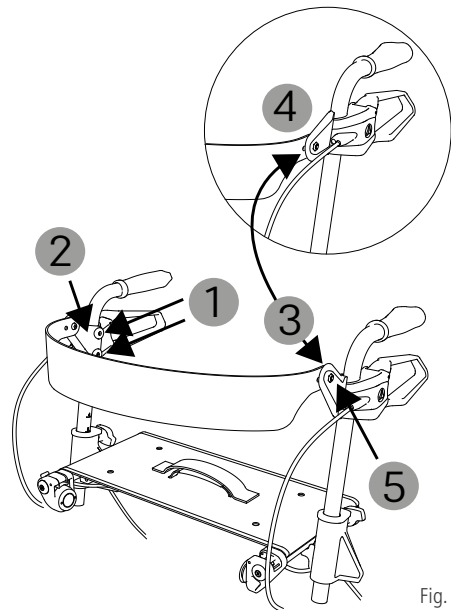

Fig. 12
The back strap (Fig. 12, next page) allows you to seat yourself safely and helps you to find the correct position on the seat of the TAIiMA VENTUM.
2. Both screws of the brake handle holder are loosened first (1, Fig. 12).
3. The back strap holder (2, Fig. 12) can now be fitted using the two matching holes.
4. The plastic element can be either aligned upwards (3, Fig. 12) or downwards (4, Fig. 12). This makes it possible to choose between two back height positions.
you wish, you can fix it in place using the two screws (1, Fig. 12). Fully tighten the screws!
6. The depth of the back strap can be varied in two settings. In this case, loosen the screws connecting the back strap and the back strap holders (5, Fig. 12). The depth varies depending on the hole selected.